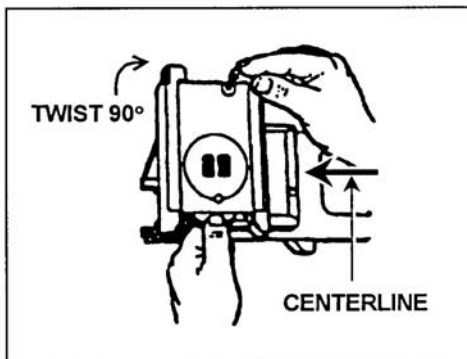

Figure 071-030-0001-25. Attachment of the receiver sear assembly
- k. Attach the receiver sear assembly (figure 071-030-0001-25).